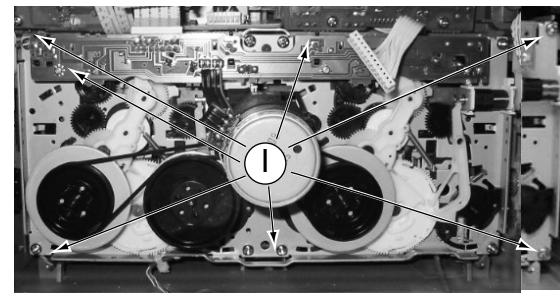

Figure 10
- 5) Loosen 8 screws 'I' to remove the Cassette Module figure 10.